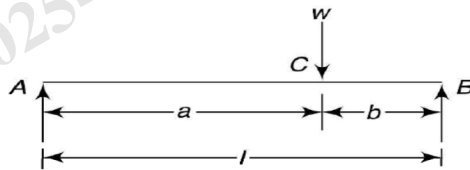

Fig. 2
- i) Draw the shear force and bending moment diagrams for a simply supported beam as shown in Fig. 2.